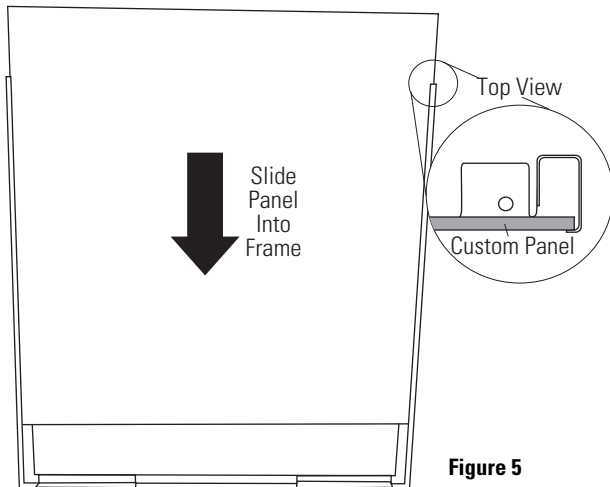

Figure 5
- Slide the 1/4" custom panel into the channel between the trim and the steel panel (figure 5).